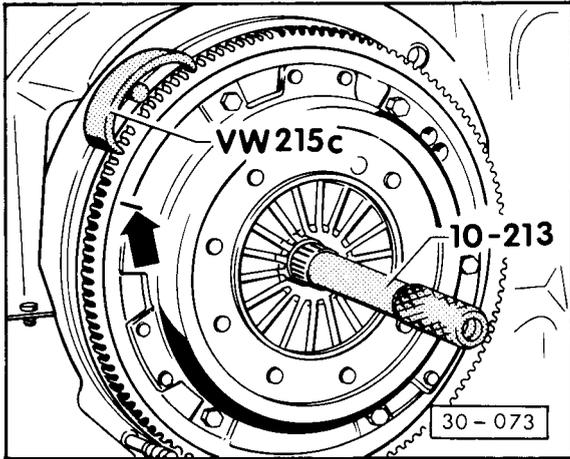

Fig. 1 Removing and installing clutch
- Removing and installing – Fig. 1